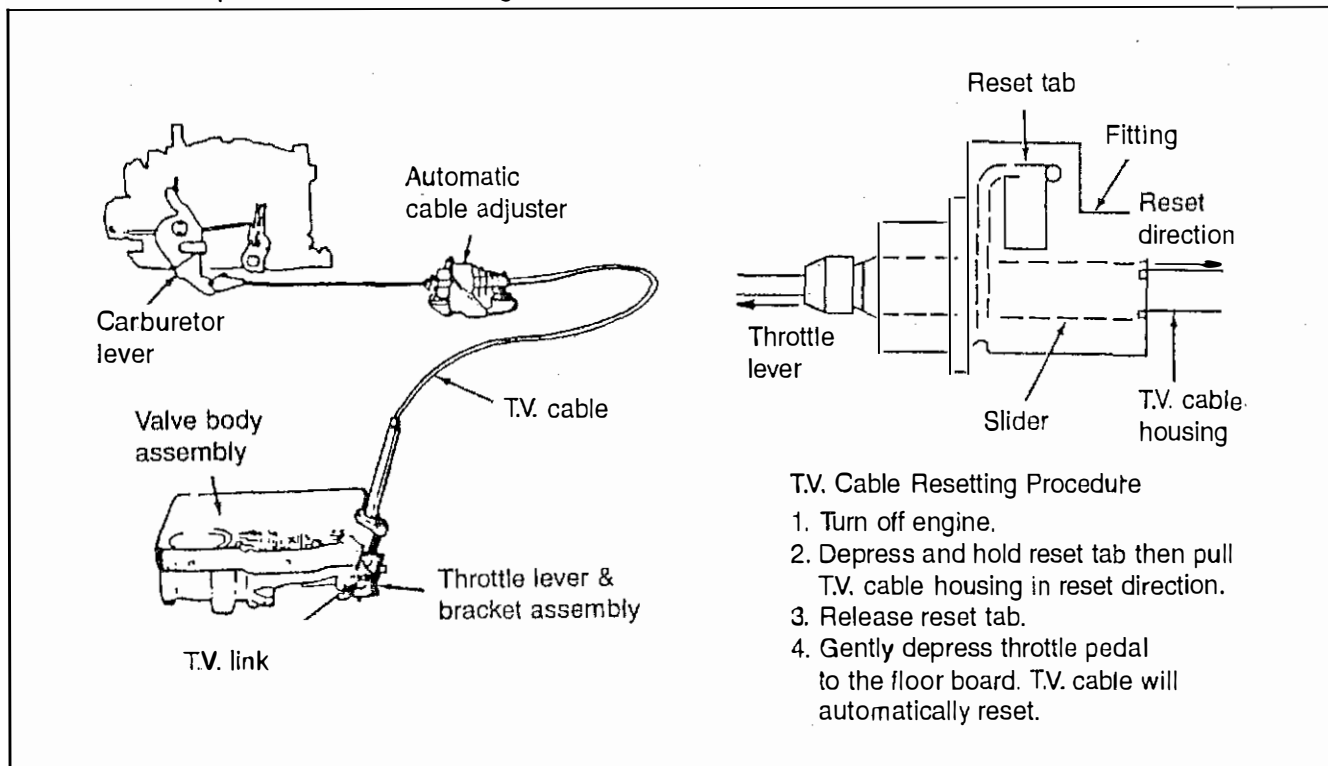

Figure 10
STEP 26. Reconnect and adjust the TV cable (see fig. 10).